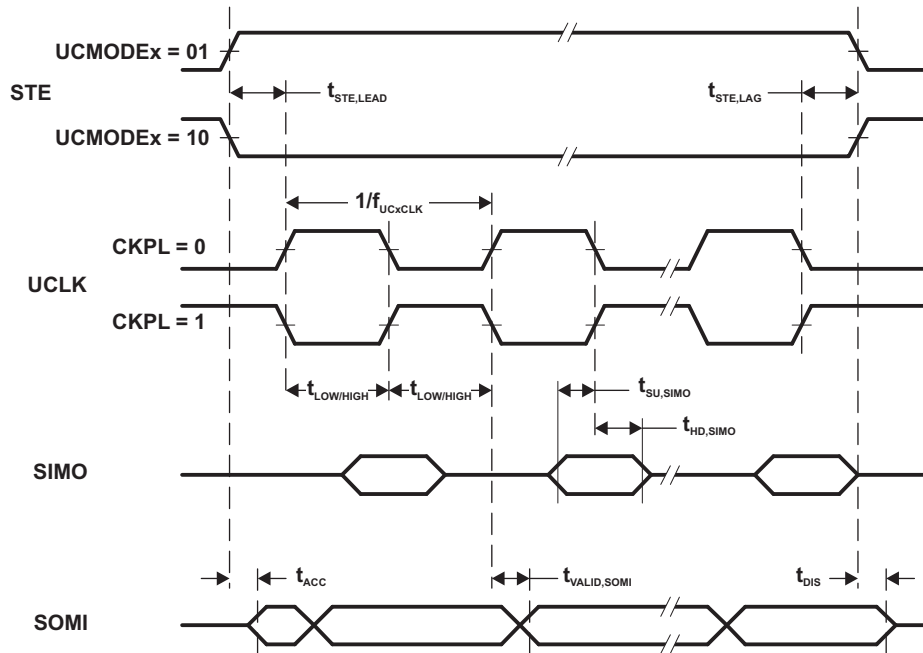
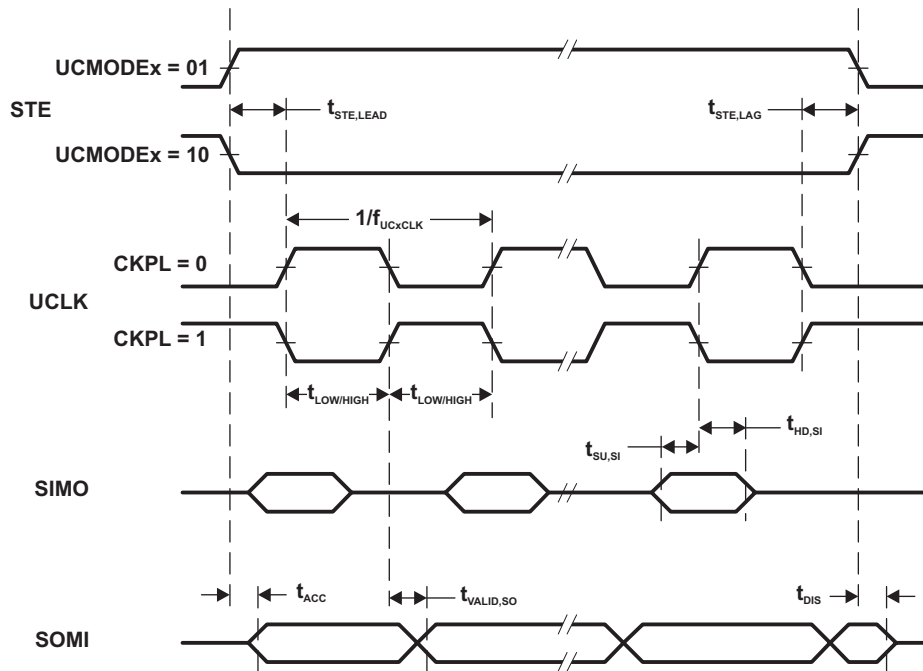

Figure 14. SPI Slave Mode, CKPH = 0
Figure 15. SPI Slave Mode, CKPH = 1
(2) Specifies the time to drive the next valid data to the SOMI output after the output changing UCLK clock edge. See the timing diagrams in Figure 14 and Figure 15.
(3) Specifies how long data on the SOMI output is valid after the output changing UCLK clock edge. See the timing diagrams in Figure 14 and Figure 15.